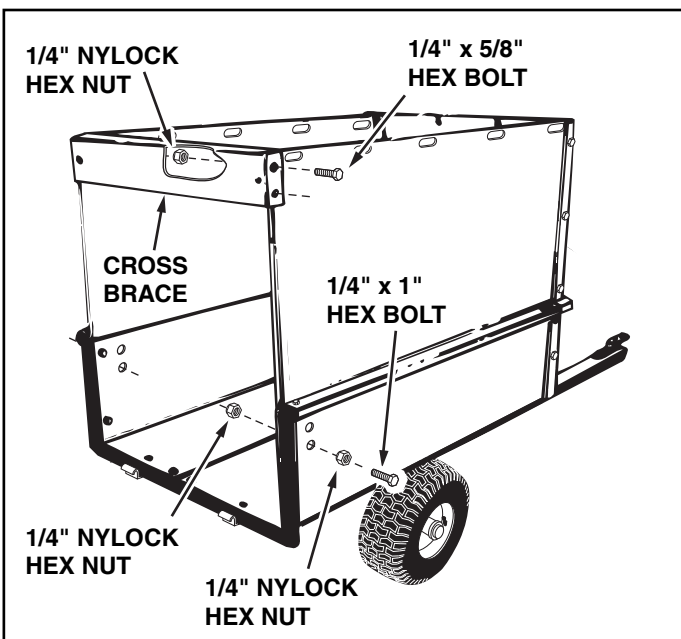

FIGURE 12
21. Screw a 1/4" Nylock hex nut approximately half an inch onto a 1/4" x 1" hex bolt. Insert the bolt into the hole shown in figure 12, in the side of the cart. Fasten the bolt to the cart using a 1/4" Nylock hex nut. **Tighten** so that the nut is flush with the end of the bolt. Repeat on the other side. See figure 12.
22. Assemble the cross brace to the top rear holes in the side panels using four 1/4" x 5/8" hex bolts and 1/4" Nylock hex nuts. See figure 12.